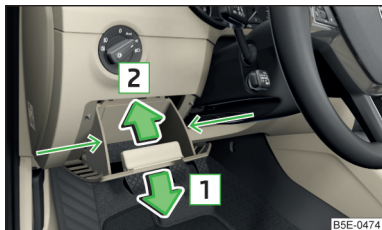

Fig. 214
- Grab hold of the storage compartment in the area of the arrows » Fig. 214.